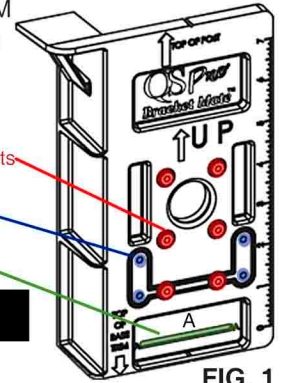

FIG. 1
Place the QS Pro Bracket Mate™ flush with the base trim. Pre-drill 6 **inside** holes. SEE FIG. 1 Attach bottom mounting brackets to post with (6) #10 screws (provided)
Place the QS Pro Bracket Mate™ flush with the top of post. Pre-drill 6 **inside** holes. SEE FIG. 1 Attach top mounting brackets to post with (6) #10 screws (provided).
Place the QS Pro Bracket Mate™ flush with the top of post. Pre-drill 4 **outside** holes. SEE FIG. 1 Attach top mounting brackets to post with (6) #10 screws (provided)
Place the QS Pro Bracket Mate™ flush with the base trim. Mark a pencil line in window "A". SEE FIG. 1 Place bottom edge of bracket adaptor on the line. Using the 4 **inside** holes on the adaptor pre-drill mounting bracket holes. Place bracket mounting plate on top of bracket adaptor and attach to post using (4) #10 screws (provided)